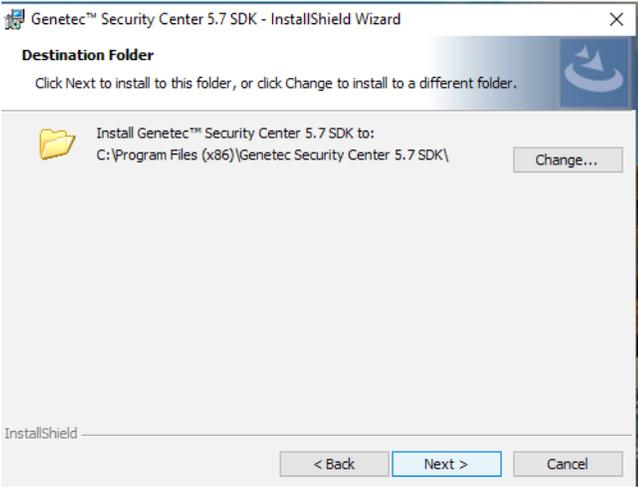

Figure 13
15. Leave the default destination folder or select the folder where Security Center is located, then click Next (Figure 13).